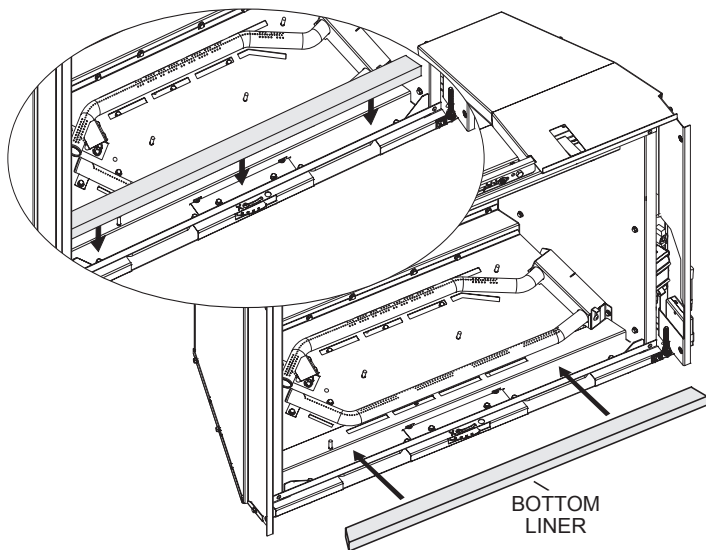

Figure 3
4. Place bottom liner as shown. See Figure 3.